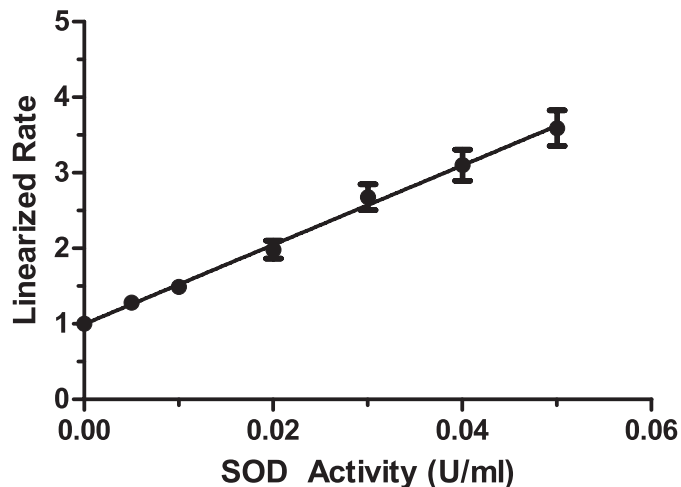

Figure 3. Superoxide Dismutase standard curve
2. Divide standard A's absorbance by itself and divide standard A's absorbance by all the other standards and samples absorbances to yield the linearized rate (LR) (i.e., LR for Std A = Abs Std A/Abs Std A; LR for Std B = Abs Std A/Abs Std B).
3. Plot the linearized SOD standard rate (LR) (from step 2 above) as a function of final SOD Activity (U/ml) from Table 1. See Figure 3 (on page 18) for a typical standard curve.
4. Calculate the SOD activity of the samples using the equation obtained from the linear regression of the standard curve substituting the linearized rate (LR) for each sample. One unit is defined as the amount of enzyme needed to exhibit 50% dismutation of the superoxide radical measured in change in absorbance per minute at 25°C and pH 8.0. SOD activity is standardized using the cytochrome c and xanthine oxidase coupled assay.